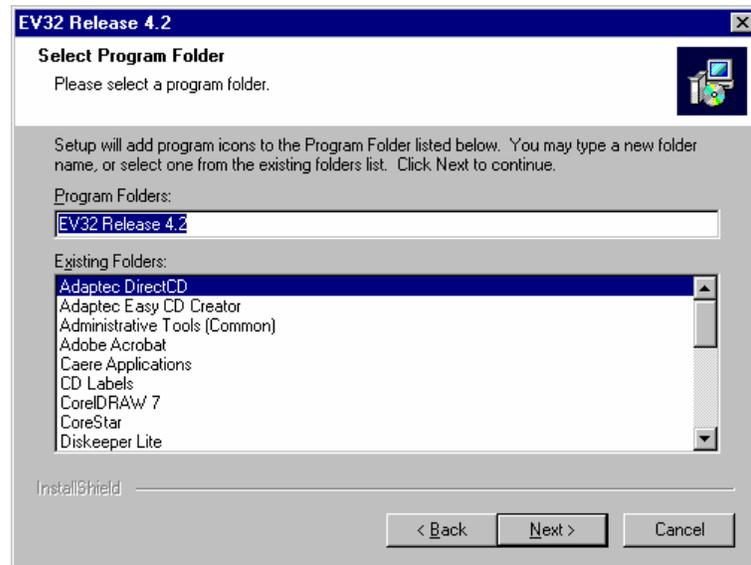
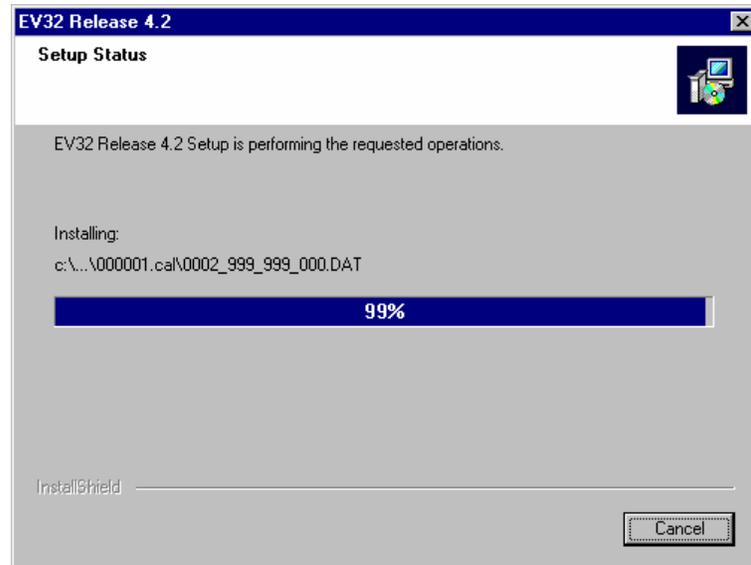

Figure 2-3. Program Folder Selection Window
Figure 2-4. Installation Status Window
- The window shown in Figure 2-3 appears. Select, type the name of the desired program folder, or accept the default name where the program shortcuts will be stored on the Start Menu. The default name for the program folder is *EV32 Release 4.2* as shown.
7. Click the **Next** button on the window shown in Figure 2-3. The installation process begins. During the installation, the status window in Figure 2-4 will show the progress of the installation.
8. When the status bar shown in Figure 2-4 reaches its end, the message box shown in Figure 2-5 will appear. This message box simply notifies you that the driver for the HASP? security key is currently being installed. Once the driver is successfully installed, the message box shown in Figure 2-6 will appear. Simply click **OK** to continue. HASP is the brand name of the enable modules used with CoreStar software products that attach to the PC's parallel port.